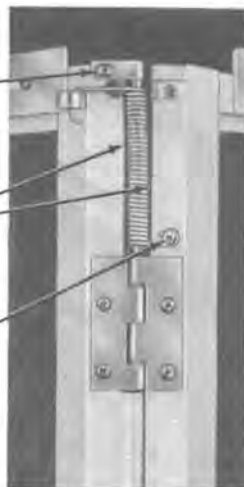
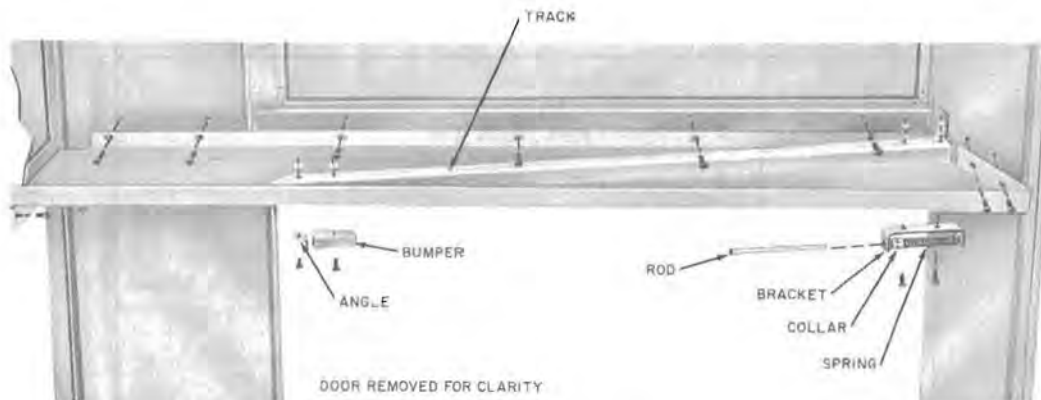

Fig. 22—Installation of Top Hinge Assembly
Fig. 23—Installation of Door Track
- (1) Check hinge wear. Clearance between hinge barrels should not exceed 1/16-inch; gauge by eye. Replace worn hinges.
- (2) Replace defective spring of the top hinge assembly only if the assembly is the latest type (Fig. 22). Replace all earlier type assemblies with the new top hinge assembly.
- (3) If door hinges squeak, lubricate at each joint between the barrels with KS-14774, L2G lubricating grease or equivalent; a KS-14796 oiler may be used.
- 4.17 When worn door track is interfering with operation of door, replace track, as shown in Fig. 23.